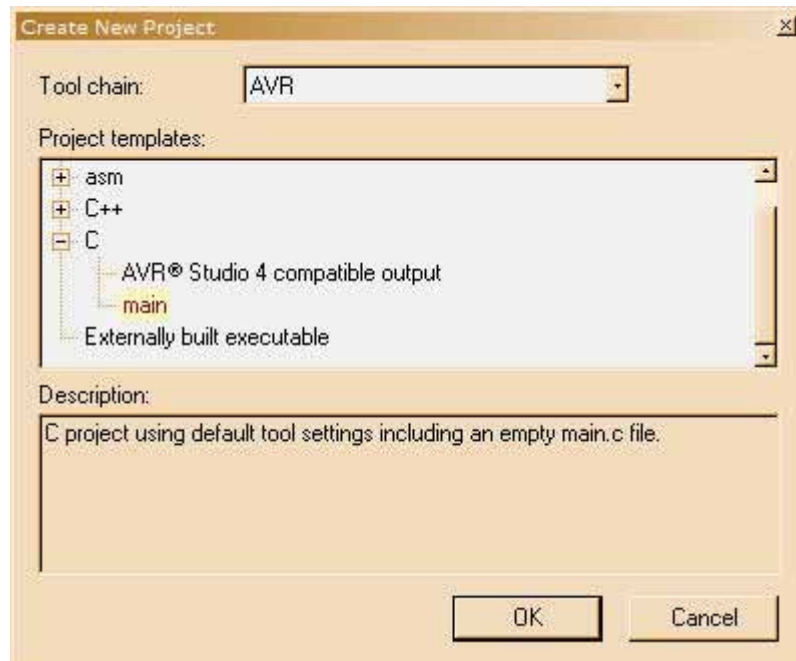

Figure 7.1: Create New C Project
4. Create new Project selecting C > main (Figure 7.1).